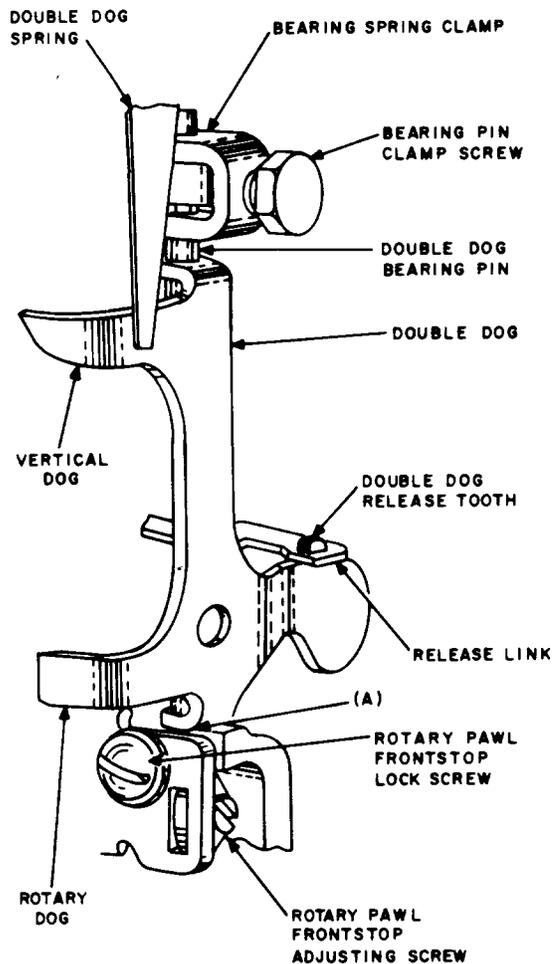

Fig. 23—Horizontal Alignment of Stationary Dog
- (a) The front surface of the stationary dog shall clear the vertical ratchet shoulder (Fig. 23, location A) and the vertical teeth when the shaft is moved from vertical normal to the tenth level, but this clearance at the closest point shall be a maximum of 0.004 inch. **Use the KS-6909 gauge.**